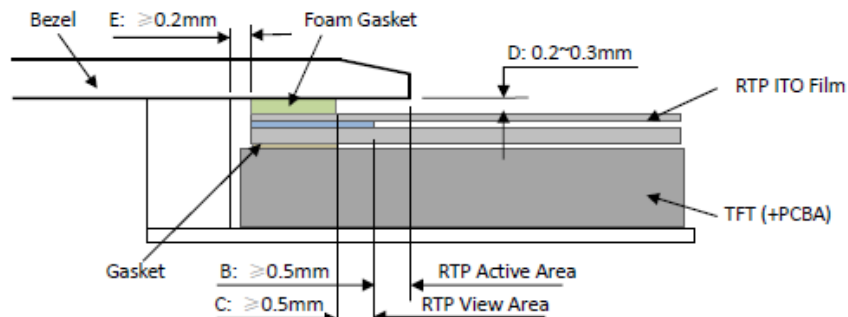

Figure 4
- It should bezel touching the RTP Active Area (A.A.) to prevent abnormal touch.It should left gab D=0.2~0.3mm in between. (Figure 4)
- Outer bezel design should take care about the area outside the A.A. Those areas contain circuit wires which is having different thickness. Touching those areas could de-form the ITO film. As a result bezel the ITO film be damaged and shorten its lifetime. It is suggested to protect those areas with gasket (between the bezel and RTP).The suggested figures are $B \geq 0.50\text{mm}$; $C \geq 0.50\text{mm}$. (Figure 4)
- The bezel side wall should keep space $E = 0.2 \sim 0.3\text{mm}$ from the RTP. (Figure 4)
- 为避免面框直接压在动作区 (A. A.) 上造成误动作, 面框与电阻触摸屏 (RTP) 之间应留有一定的空隙 $D = 0.2 \sim 0.3\text{mm}$ 之间. (附图 4)
- 设计面框时, 要注意用面框保护触摸屏四周的非保证操作区域, 因为布线区域在此处形成一台阶, 在此区域附近操作时 ITO Film 变形较大, 容易导致 ITO 损坏而降低寿命. 为保护 RTP 和避免误操作, 在 RTP 与面框之间垫缓冲物 (Gasket), 我们建议设计面框应覆盖动作区的边缘, 面框边缘到 V. A. 区的距离 $B \geq 0.50\text{mm}$; 垫圈内边缘到 V. A. 区的距离 $C \geq 0.50\text{mm}$. (附图 4)
- 在设计面框与 RTP 组装时, 应考虑到面框内侧与 RTP 外侧的间距 $E \geq 0.2\text{mm}$. (附图 4)